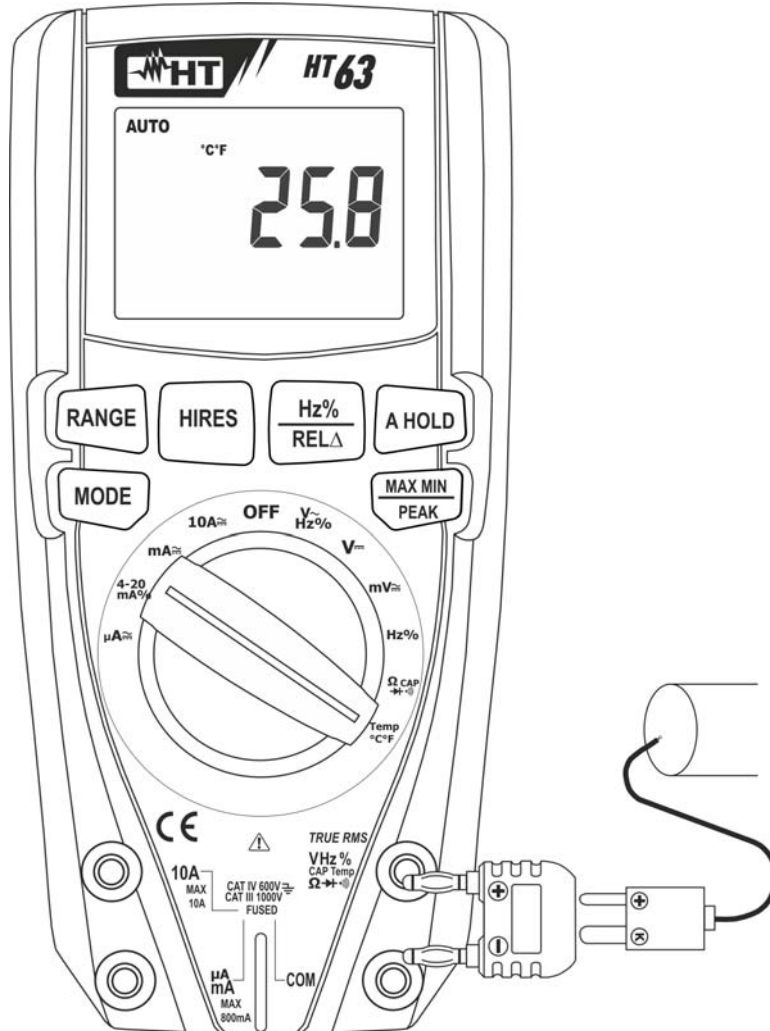

Fig. 8: Use of the instrument for Temperature measurement
3. Insert the provided adapter into input terminals **VHz%CAPTempΩ▶+)** (polarity +) and **COM** (polarity -) (see Fig. 8)